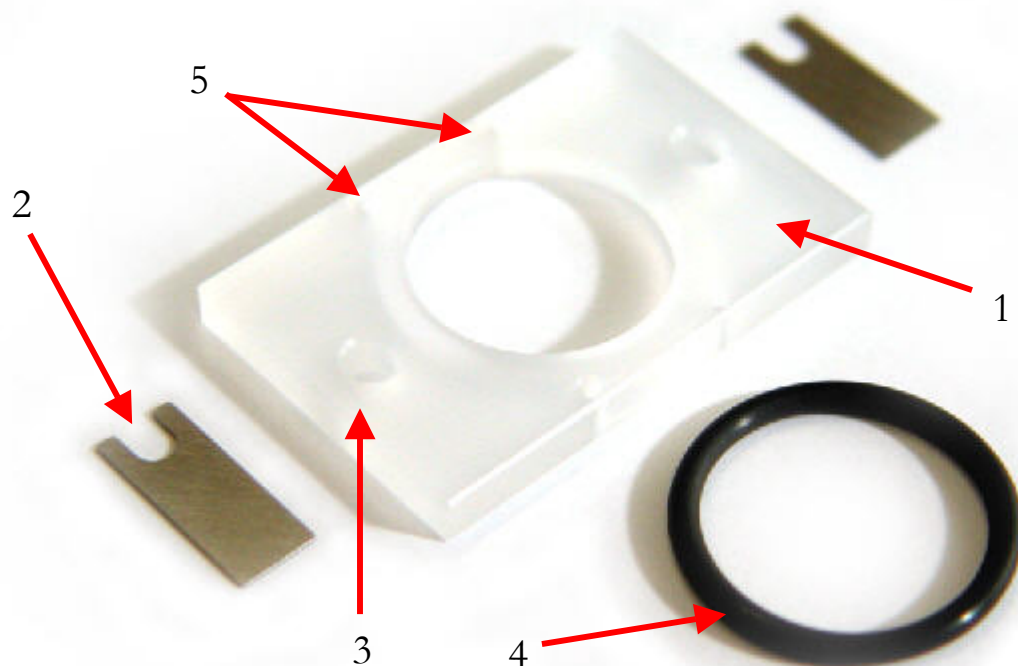

Figure 2 (Liquid cell components)
5. **Contact Holes:** Though difficult to see in this image, there are four small holes through the face of the liquid cell plate. These holes allow electrodes (usually the WE) direct contact with the sample, while keeping them isolated from the liquid (only two of the four holes are indicated by the arrows in Figure 2 above). There are four holes to facilitate electrode placement regardless of the liquid cell's orientation.